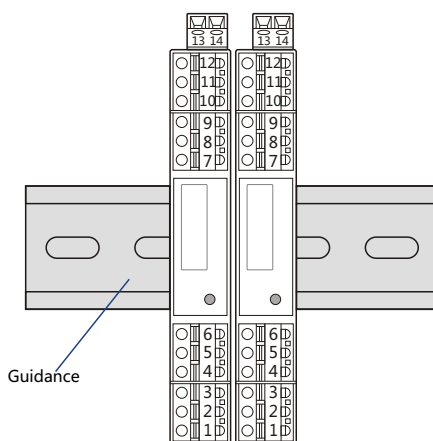

Figure 1 Vertical installation diagram
1. The user can adopt vertical installation shown in Fig. 1 or horizontal installation shown in Figure 2.